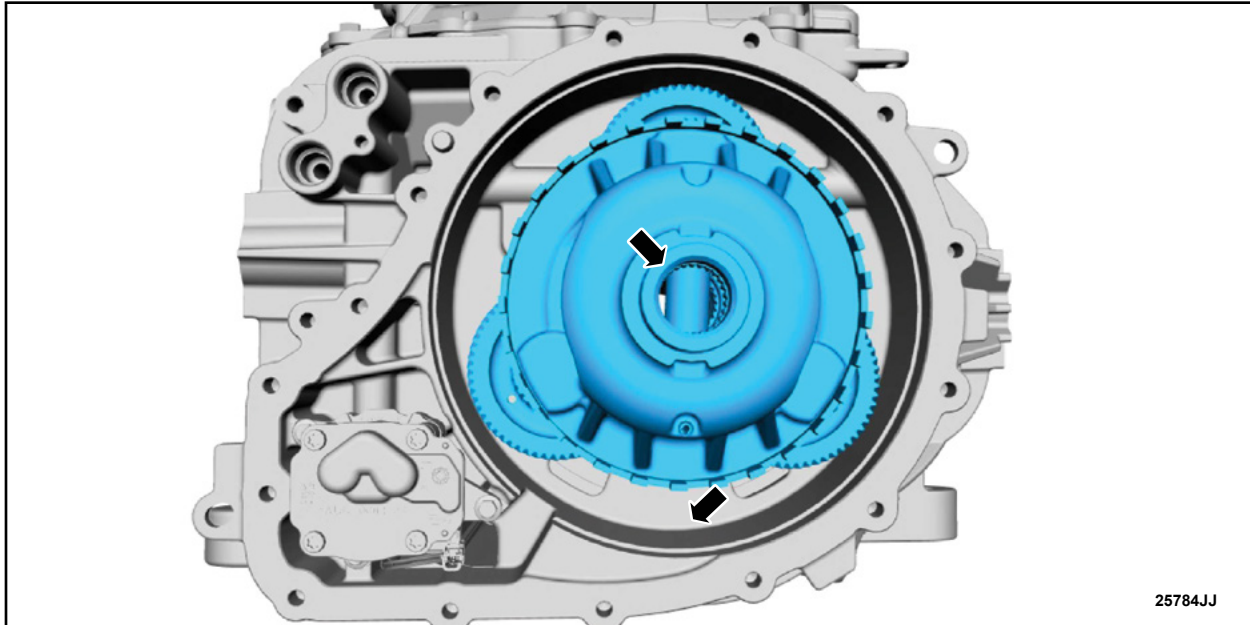

FIGURE 27
32. Inspect the differential gearing. Does the differential gearing show signs of excess wear, contamination, or debris? See Figures 27 and 28.